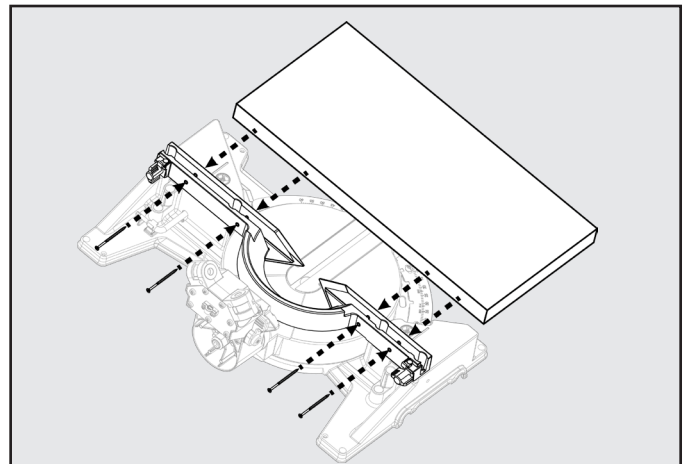
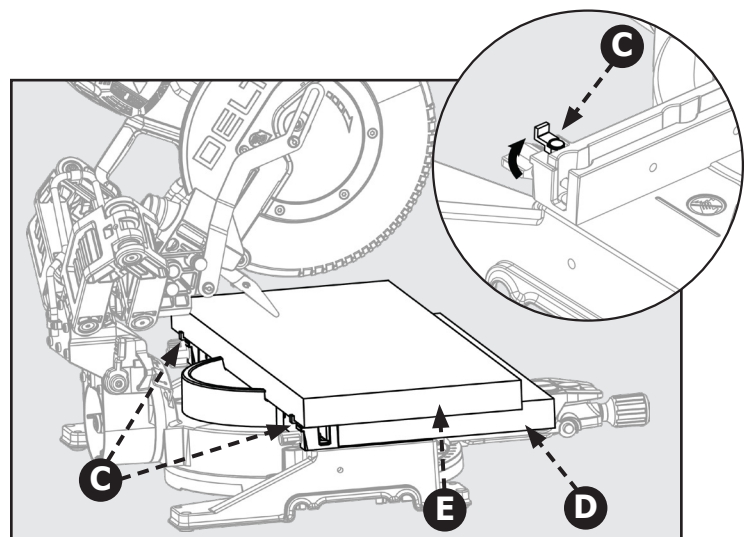

Figure 28
Figure 29
2. Flip the support tabs (C) into position. Tabs (C) are on both the left and right sides of the lower (fixed) fence. These will function as your workpiece backstop. See Figure 29.
3. You will need to add an auxiliary table board (D) to support your large capacity workpiece (E). Place a 2" x 14" auxiliary table board (D) onto the saw table and against the lower (fixed) section of the saw fence. Make sure the board is securely positioned against the lower (fixed) fence.
**NOTE:** Use wood screws to secure the auxiliary table board (D) to the lower (fixed) fence. See Figure 28.
4. Use the support tabs (C) to secure your workpiece before making any cuts